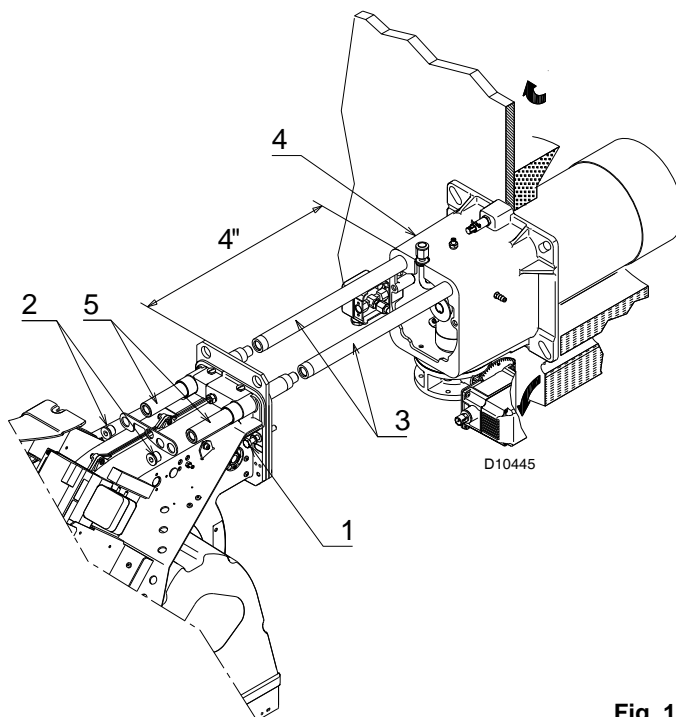
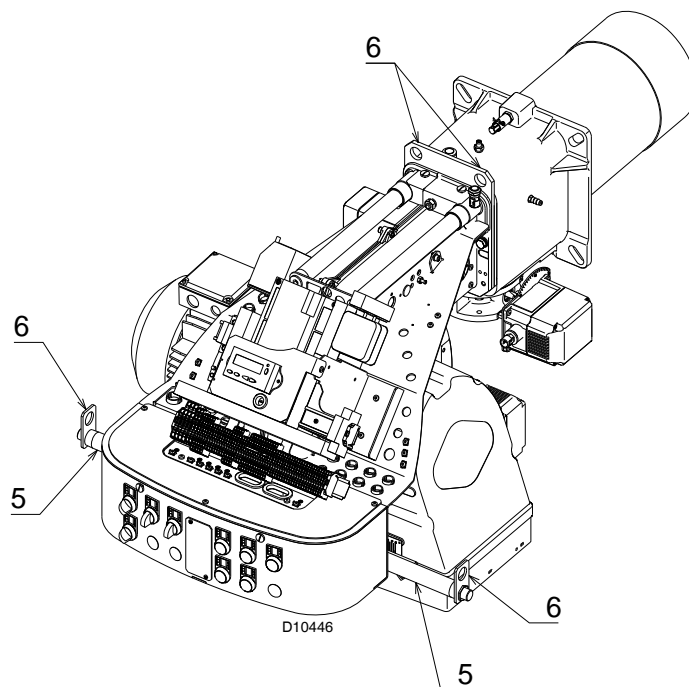

Fig. 17
Fig. 18
- push the burner on the sliding bars 3) at approximately 4" from the pipe coupling 4) - burner in the position shown in Fig. 17;
- insert the electrode cable, then slide the burner as far as the pipe coupling - burner in the position shown in Fig. 18;
- unscrew the 2 screws 2) from the extension 5) and reposition them as previously Fig. 18.
Key (Fig. 17 and Fig. 18)